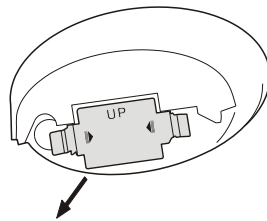

Fig6
1. Press the “key” on the battery cover in the direction of the arrow, pull out the battery cover.(See fig 6)